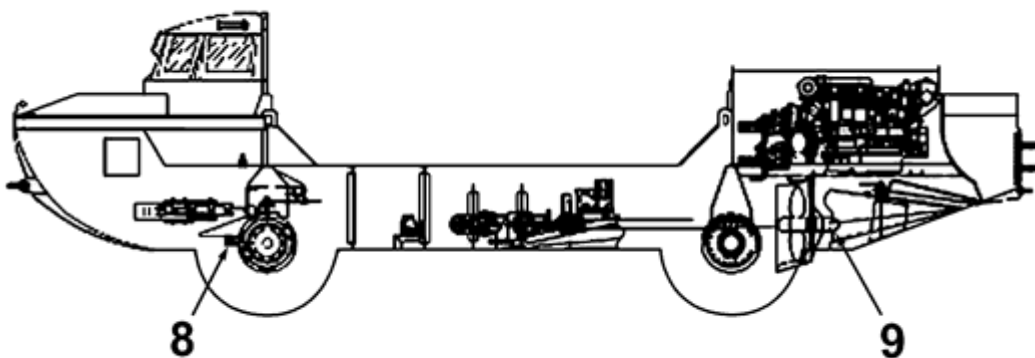
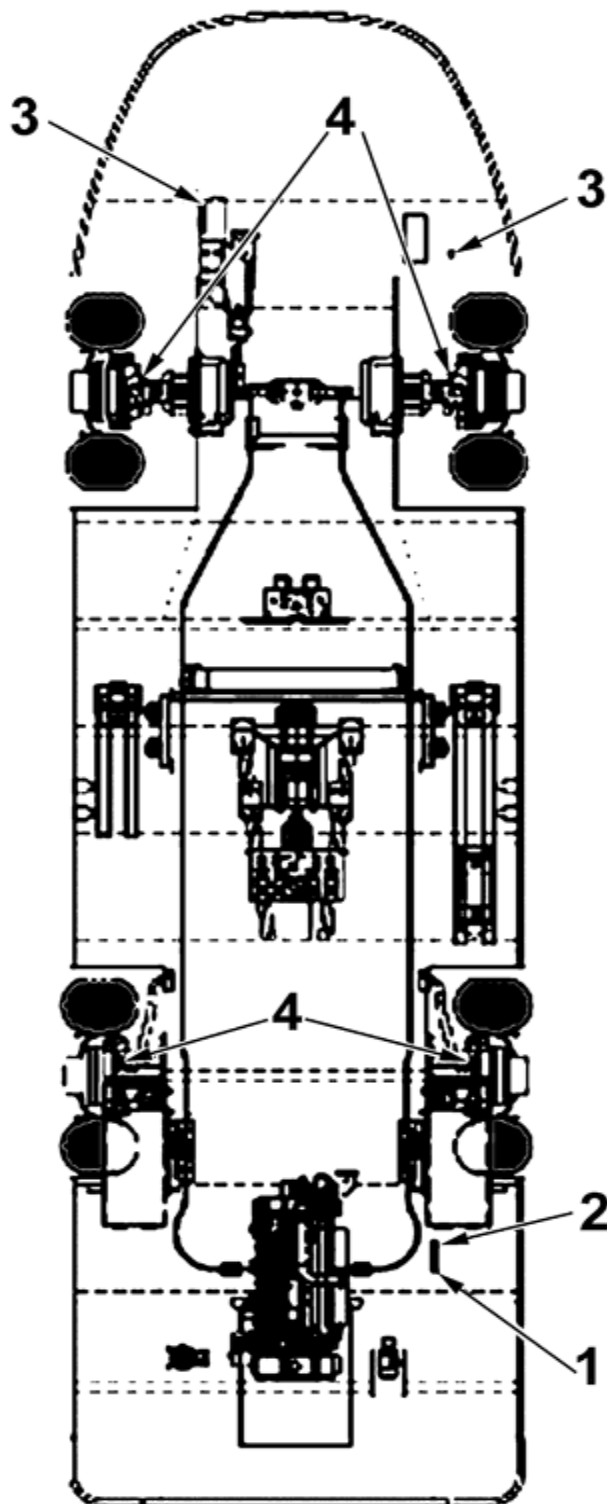
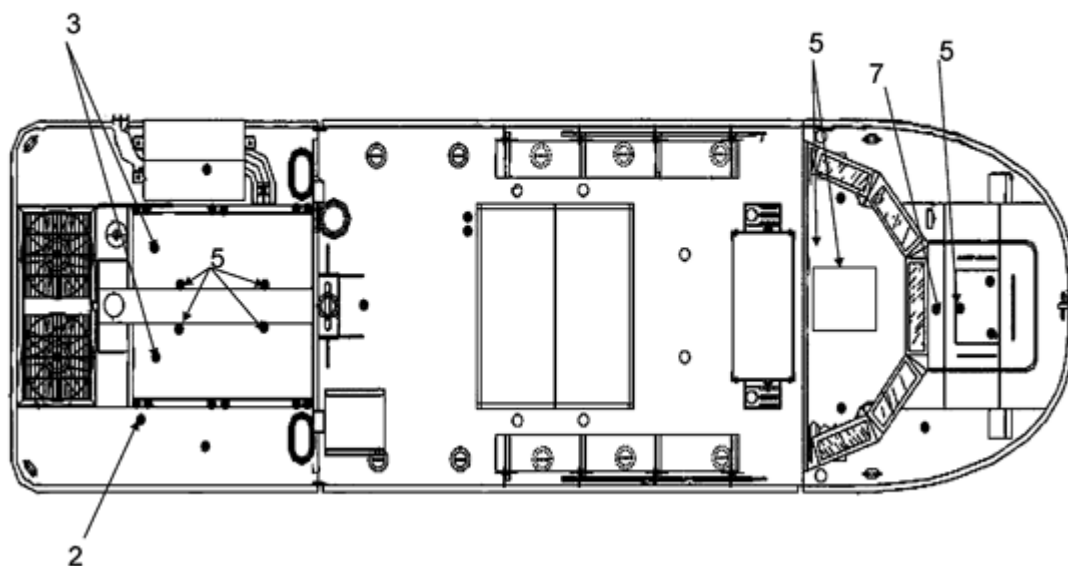

Figure 3 Lube Points
Figure 4 Lube Points
Figure 6 Lube Points
- (1) Inspect Aft Port/Stbd rudder cables lube points for fresh or excessive lubricant. If fresh or excessive lubricant is present omit Step 1.c.(2) through Step 1.c.(3) and proceed to Step 1.c.(4). If fresh or excessive lubricant is not present proceed to Step 1.c.(2).
- (2) Clean Aft Port/Stbd rudder cables and linkages.
- (3) Apply lithium grease to Aft Port/Stbd rudder cables and linkages.
- (4) Remove excess grease from Aft Port/Stbd rudder cables and linkages.
- (5) For craft without the Lubrication Access improvements proceed to Step 1.c.(6). Inspect remote Port rudder cable lubrication fitting on the starboard side of the engine compartment for fresh or excessive grease. If fresh or excessive grease is present omit Step 1.c.(7) through Step 1.c.(8) and proceed to Step 1.c.(9). If fresh or excessive grease is not present proceed to Step 1.c.(7).
- (6) Inspect Aft Port/Stbd rudder cables lubrication fitting for fresh or excessive grease. If fresh or excessive grease is present, omit Step 1.d.(8) through Step 1.d.(9) and proceed to Step 1.d.(10). If fresh or excessive grease is not present proceed to Step 1.d.(8).
- (7) Clean rudder cable lubrication fitting.
- (8) Using grease gun, apply grease to remote Port rudder cable lubrication fitting. Do not over-grease to avoid damaging craft component seals.
- (9) Remove excess grease from remote Aft Port rudder cable lubrication fitting.
- (10) Repeat Step 1.c.(7) through Step 1.c.(9) for remote Stbd rudder cable lubrication fitting.
- d. Lubricate Fwd Port/Stbd steering cable lube points (Located inside hull) with Lubrication Access improvements (#4 on Figure 1 and Figure 4), without Lubrication Access improvements (#4 on Figure 5):
- (1) Inspect Fwd Port/Stbd steering cables lube points for fresh or excessive lubricant. If fresh or excessive lubricant is present omit Step 1.d.(2) through Step 1.d.(3) and proceed to Step 1.d.(4).
- (2) Clean Fwd Port/Stbd steering cables and linkages.
- (3) Apply white lithium grease to Fwd Port/Stbd steering cables and linkages.
- (4) Remove excess lubricant from Fwd Port/Stbd steering cables and linkages.
- (5) For craft without the Lubrication Access improvements proceed to Step 1.d.(6). Inspect remote Fwd Port/Stbd steering cables lubrication fitting on the starboard side of the engine compartment for fresh or excessive grease. If fresh or excessive grease is present omit Step 1.d.(7) through Step 1.d.(8) and proceed to Step 1.d.(9).
- (6) Inspect Fwd Port/Stbd steering cables lubrication fitting for fresh or excessive grease. If fresh or excessive grease is present, omit Step 1.d.(7) through Step 1.d.(8) and proceed to Step 1.d.(9). If fresh or excessive grease is not present proceed to Step 1.d.(7).
- (7) Clean steering cable lubrication fitting.
- (8) Using grease gun, apply grease to remote Port steering cable lubrication fitting. Do not over-grease to avoid damaging craft component seals.
- (9) Remove excess grease from remote Fwd Port steering cable lubrication fitting.
- (10) Repeat Step 1.d.(7) through Step 1.d.(9) for remote Stbd steering cable lubrication fitting.
- e. Lubricate hatch dogging mechanism (6 ea) with Lubrication Access improvements (#5 on Figure 6), without Lubrication Access improvements (#5 on Figure 2):
- (1) Inspect hatch hinges and dogging mechanisms for fresh or excessive grease. If fresh or excessive grease is present omit Step 1.e.(2) through Step 1.e.(3) and proceed to Step 1.e.(4). If fresh or excessive grease is not present proceed to Step 1.e.(2).
- (2) Clean hatch dogging mechanism.
- (3) Using grease gun, apply grease to hatch hinge and dogging mechanism lubrication fitting until grease extrudes from hinge and pivot point.
- (4) Remove excess grease.
- (5) Repeat Step 1.e.(1) through Step 1.e.(4) for remaining hatch hinge and dogging mechanisms.
- (1) Inspect Engine/bow/top hatch for fresh or excessive grease. If fresh or excessive grease is present omit Step 1.f.(2) through Step 1.f.(3) and proceed to Step 1.f.(4). If fresh or excessive grease is not present proceed to Step 1.f.(2).
- (2) Clean hatch hinge and lubrication fitting.
- (3) Using grease gun, apply grease to hatch hinge and lubrication fitting until grease extrudes from hinge and pivot point.